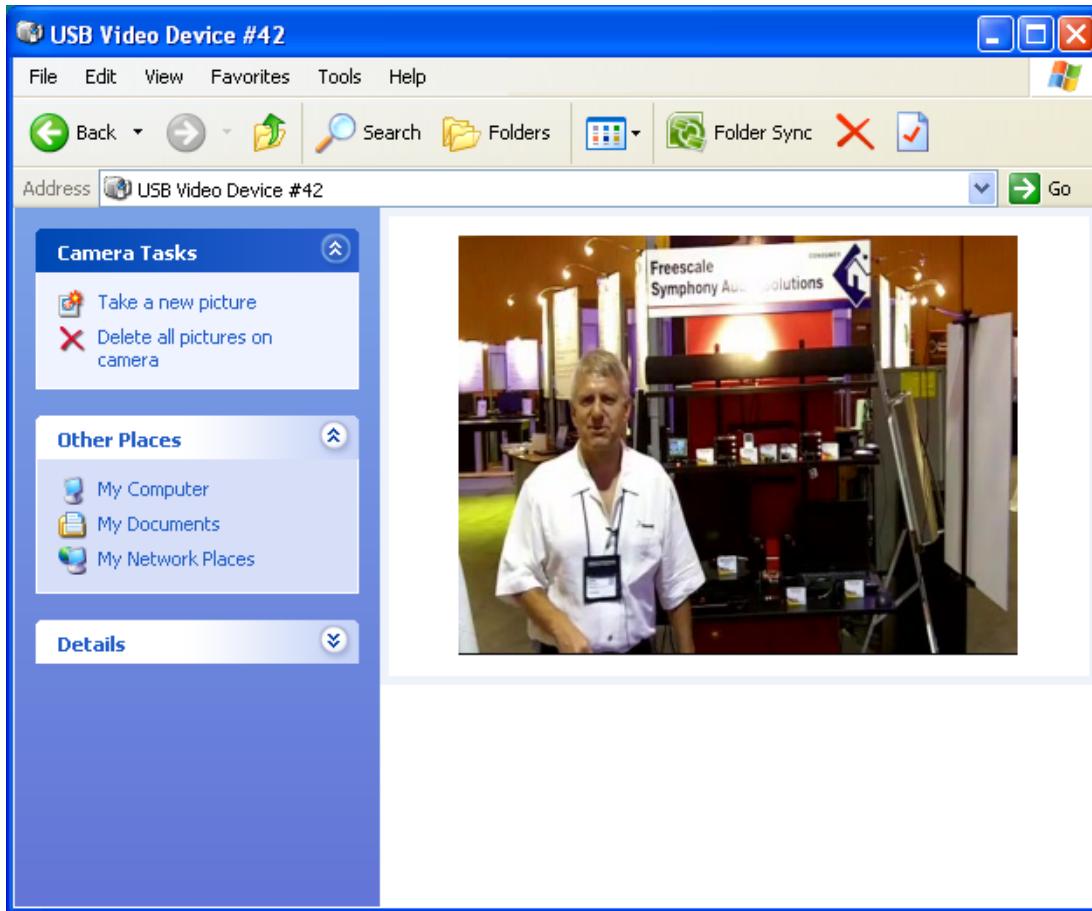

Figure J-15. Video is displayed
2. You repeat steps from 2th to 7th in Internal flash demo, then video is displayed as shown as shown in Figure J-15